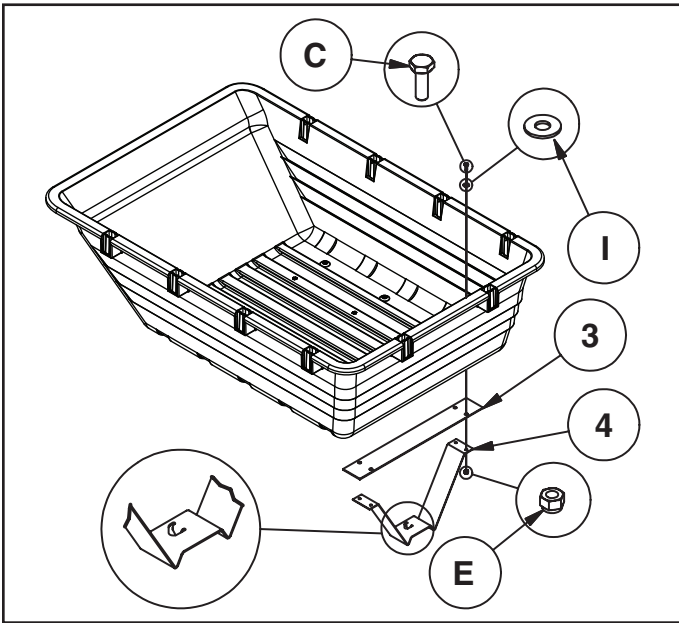

FIGURE 6
STEP 6: (SEE FIGURE 6)
- Assemble the latch stand plate (3) and the latch stand bracket (4) at the front of the tray using four hex bolts (C), washers (I) and hex nuts (E). The aligning tab on the bottom of the latch stand bracket must be towards the rear of the cart. **Tighten.**